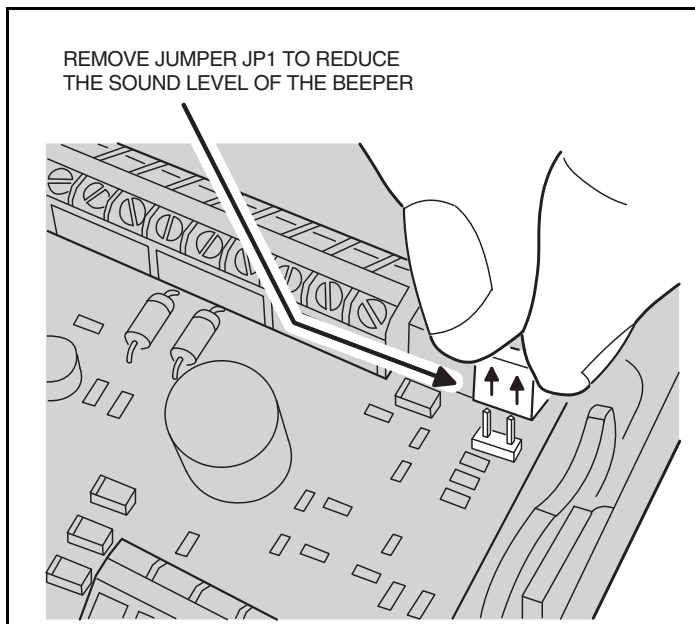

Figure 8. Removing Beeper Jumper
- ☐ If the keypad's beeper is too loud for the keypad's location, remove jumper JP1 (see Figure 8).